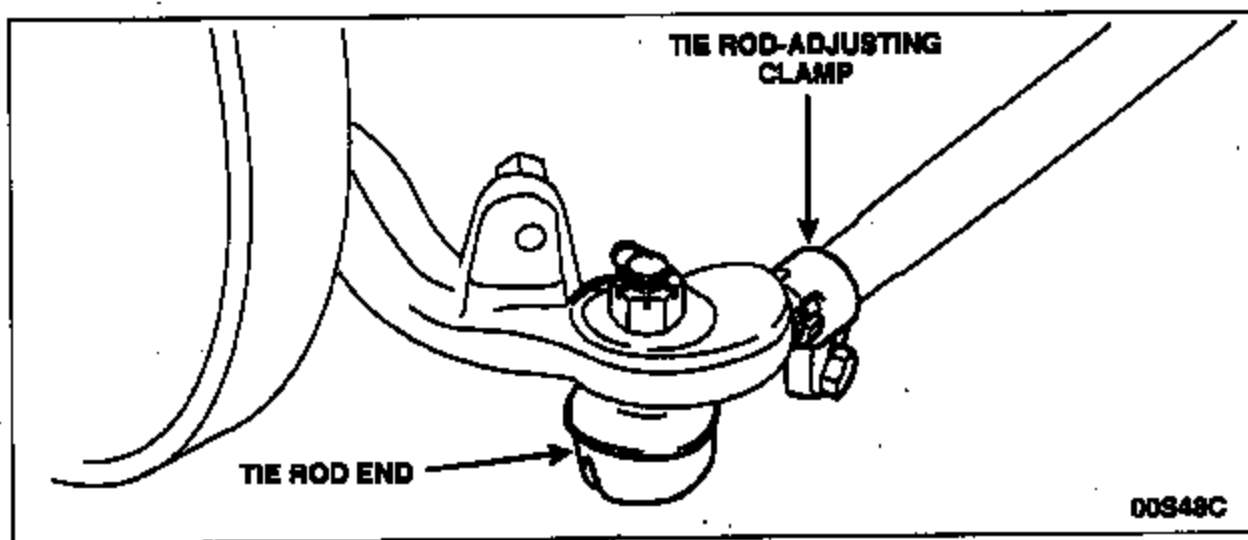

FIGURE 3
3. Loosen the tie rod-adjusting clamp. See Figure 3.
4. Remove and discard the cotter pin, then remove the castle nut. See Figure 3.